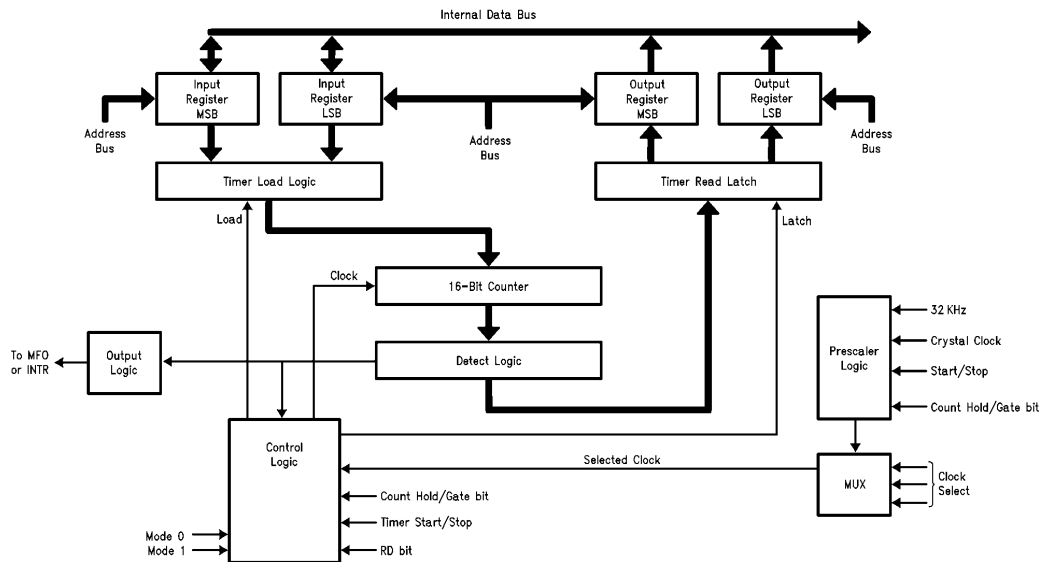

FIGURE 7. DP8571A Timer Block Diagram
Figure 7 shows the functional block diagram of one of the timers. The timer consists of a 16-bit counter, two 8-bit input registers, two 8-bit output registers, clock prescaler, mode control logic, and output control logic. The timer and the data registers are organized as two bytes for each timer. Under normal operations a read/write to the timer locations will read or write to the data input register. The timer contents can be read by setting the counter Read bit (RD) in the timer control register.